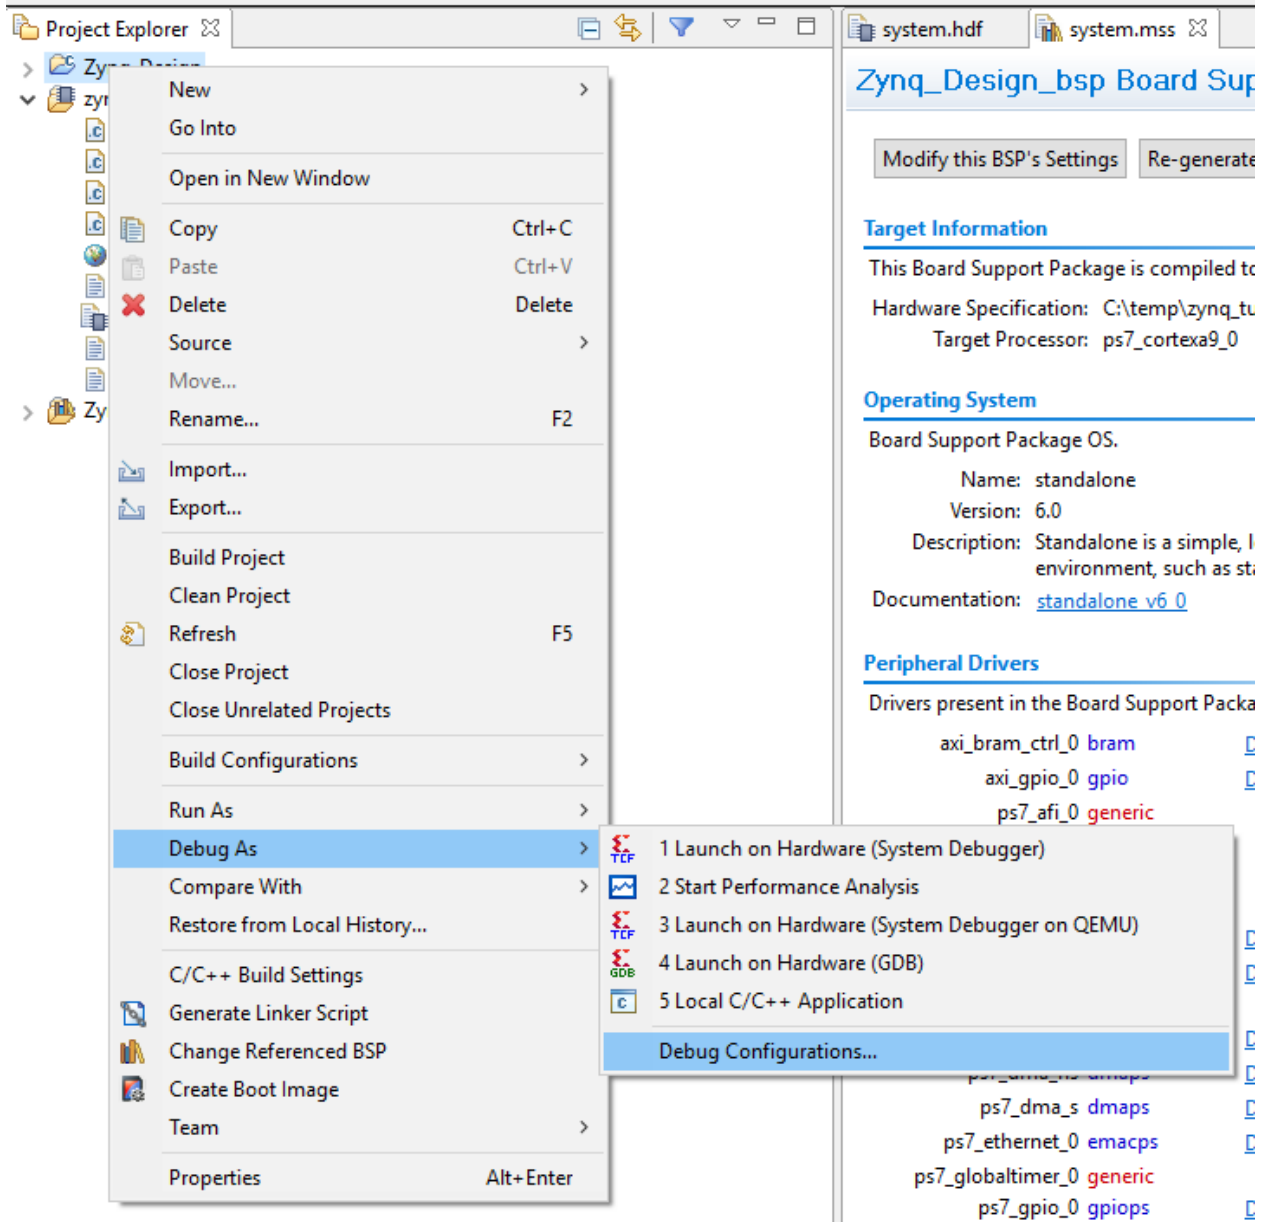

Figure 29: Debug Configurations menu option.
6. Select **Debug As** → **Debug Configurations** (Figure 29).